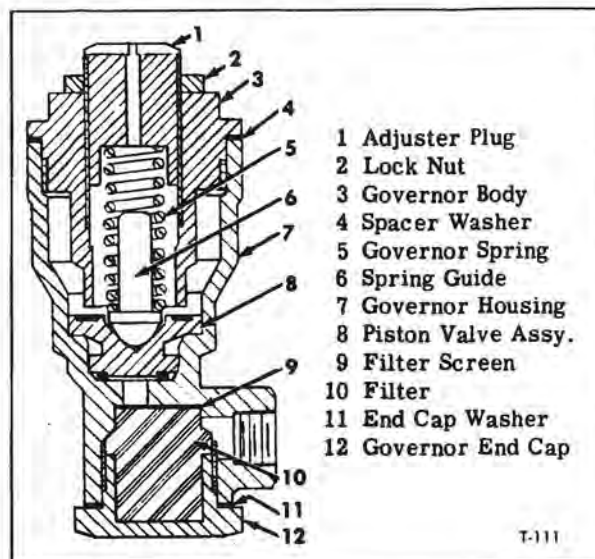

Figure 2—Air Compressor Governor
separate units, a governor assembly and an unloader valve (figs. 2 and 3). The unloader valve is mounted directly on cylinder head. The governor assembly is bolted to a mounting bracket attached to two of the cylinder head studs.
1. Loosen lock nut (2, fig. 2). Use a screwdriver on adjusting plug (1, fig. 2).